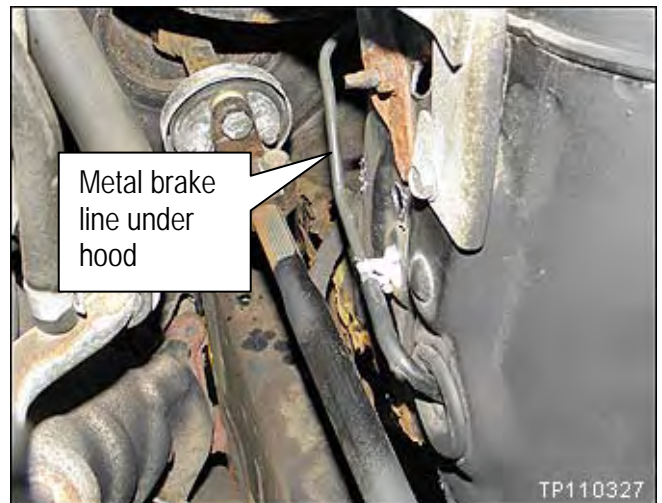

Figure RB27
- Inspect the line under the hood (see Figure RB27).